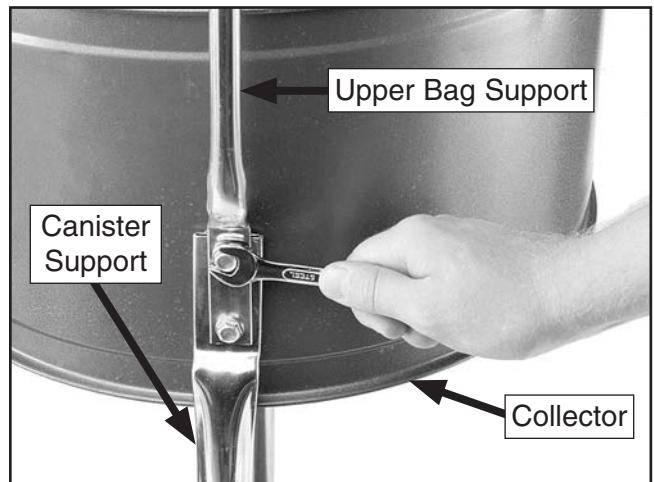

Figure 17. Mounting collector to brackets.
G1030Z2/G1030Z2P only: Place the upper bag support over the canister support and secure it with (2) $5/16$ "-18 x $1/2$ " flange bolts, as shown in **Figure 17**.
c. Position the metal belt clamp around the bottom of the canister and latch it so it evenly compresses against the foam strip (see **Figure 17**).